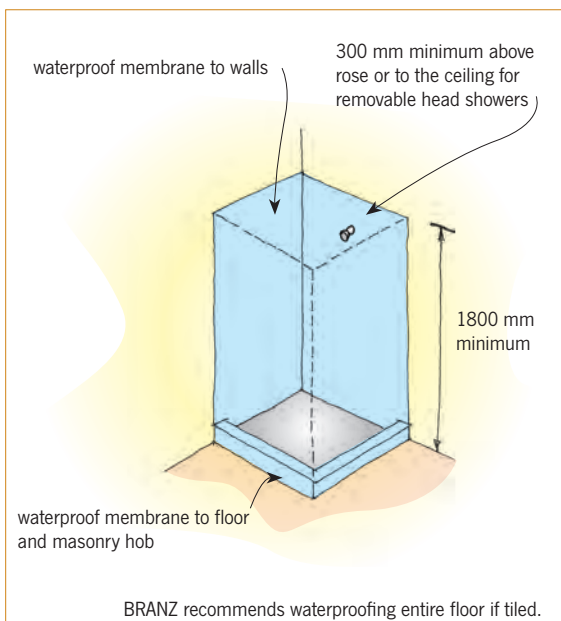

Figure 3: Enclosed shower waterproofing (with rigid shower screens and doors), from E2/AS1.
- In enclosed showers – to all floor and wall tiles. Where a removable showerhead is specified, take the waterproofing to the ceiling level (Figure 3). While E3/AS1 considers a loose shower curtain to be an enclosure, BRANZ recommends that such a shower be considered as open because of the amount of water that can spray around the edges.